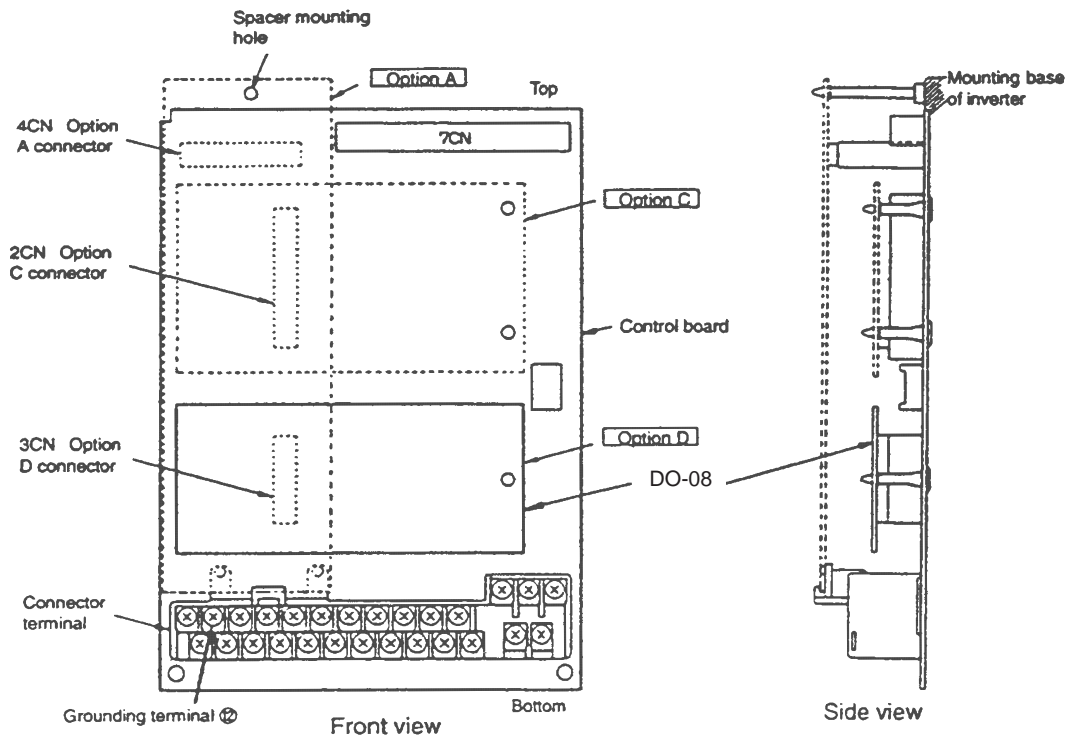
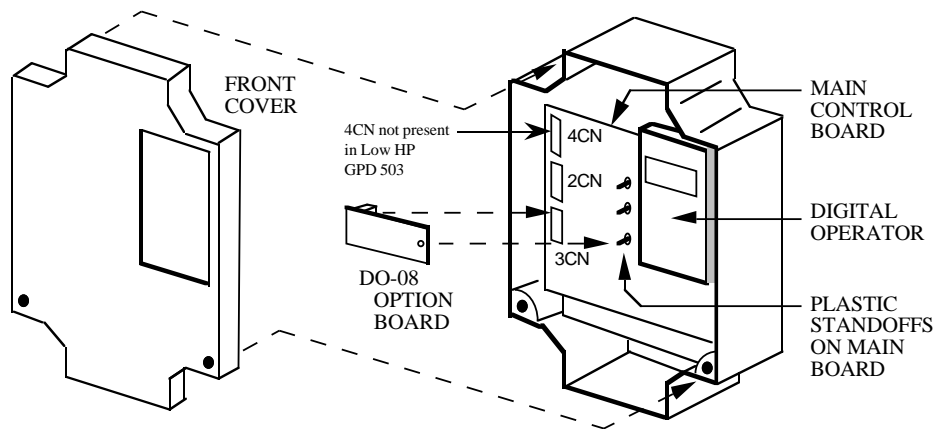

Figure 1. Installation of DO-08 Card in GPD 515
Figure 2. Installation of DO-08 Card in GPD 503, GPD 575, or VCD 703
4. See Figure 1 (GPD 515) or Figure 2 (GPD 503, GPD 575, VCD 703). Install the option on the Main Control Board, 1PCB, and ensure 3CN is properly connected. Make sure Electrostatic procedure is followed.